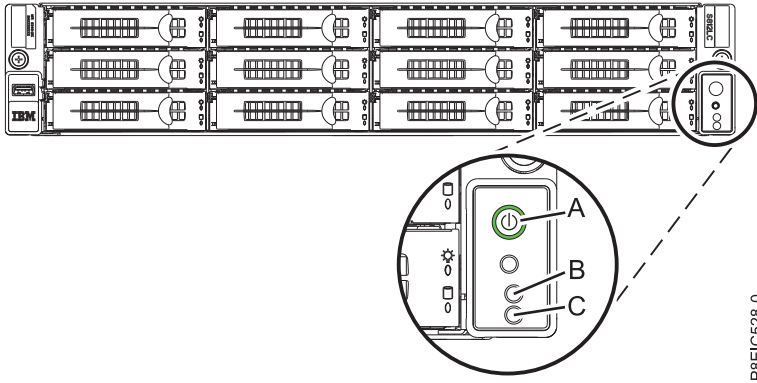

Figure 115. Power button
- The power-on LED, as shown in Figure 115 on page 110, is flashing. A flashing light indicates standby power to the unit.
3. Press the power button (**A**) shown in Figure 115 on page 110. The power-on light stops flashing and remains on, indicating that the system power is turned on. The system cooling fans operate at a high speed, and after approximately 30 seconds, return to operating speed.